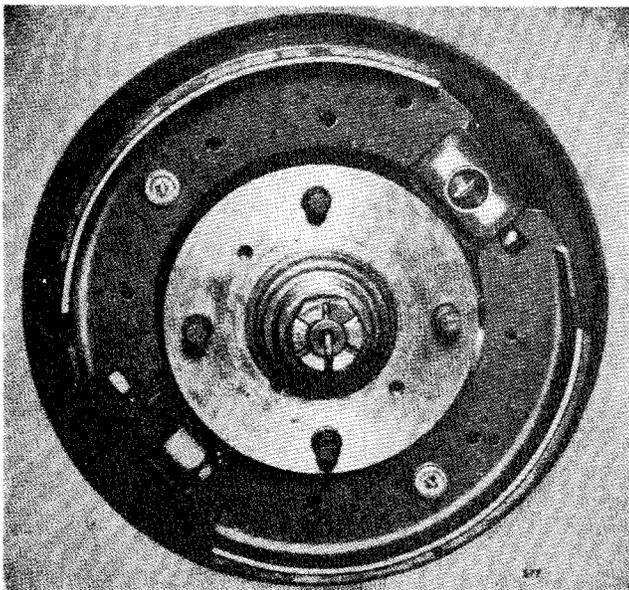

Fig. 3 Rear Drum Brake Assembly.
3. REAR BRAKES (Figs. 3 and 4)